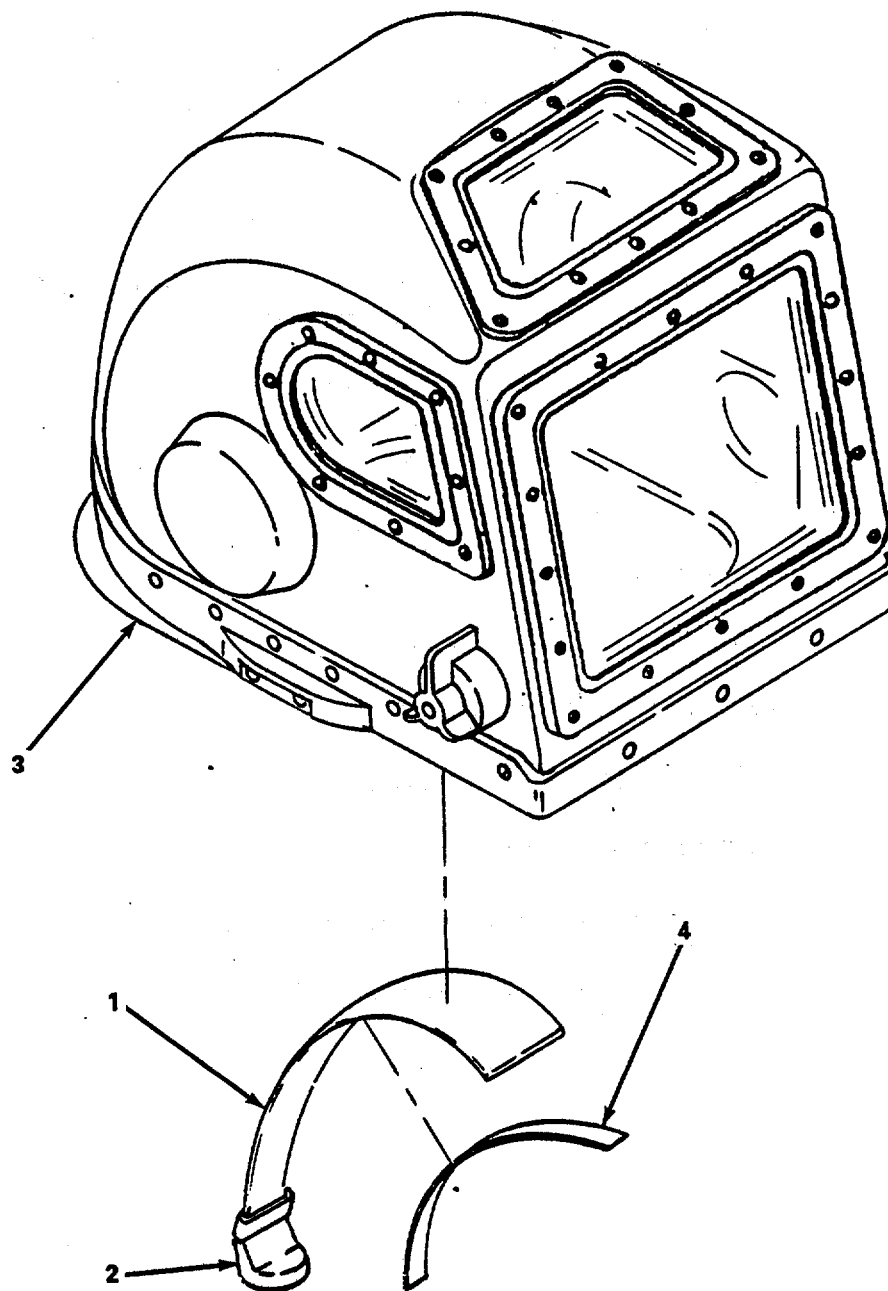

Figure 4-31. Supply Duct, Replace.
a. Replace (Supply Duct). (figure 4-31)
- (1) Remove supply duct (1), tie wraps, and connector (2).
- (2) Ensure mounting surface on inside of helmet (3) is clean.
- (3) Apply adhesive to mounting surface of connector (2) and supply duct (1).
- (4) Install connector (2), supply duct (1), and tie wrap.
- (5) Install hook and eye tape (4) to supply duct (1) and secure with adhesive.